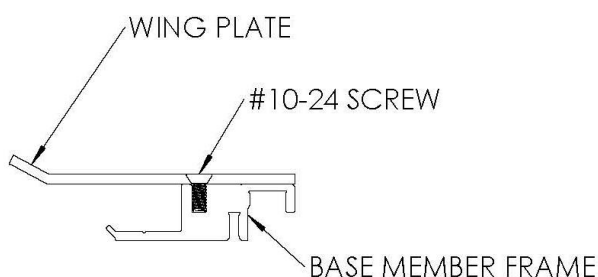

FIGURE 1
1. Remove the factory installed #10-24 screw that attaches the wing plate to the base member frame and retain for reinstallation later. *Note: The 2", 4" and 6" sizes this step is not necessary as the wing plate and frame are one piece.* **See Figure 1**